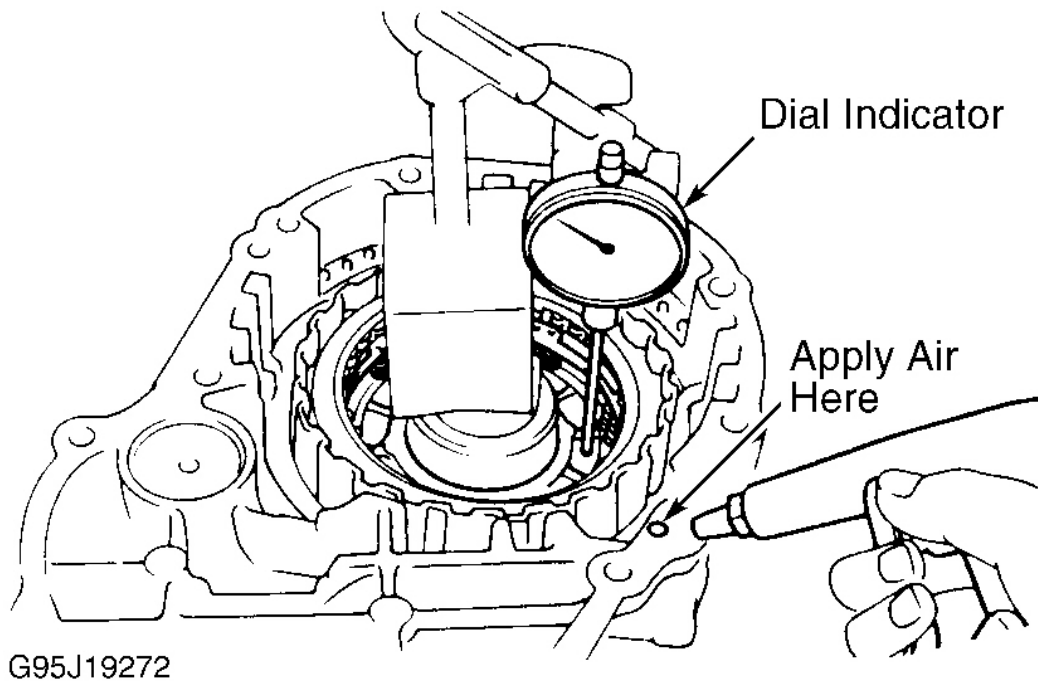

Fig. 40: Measure OD Direct Clutch Piston Stroke
5. Install OD clutch drum to case. Measure OD direct clutch piston stroke by applying compressed air into case passage. Piston stroke should be .048-.075" (1.21-1.91 mm). See **Fig. 40**. If piston does not move, disassemble and inspect.